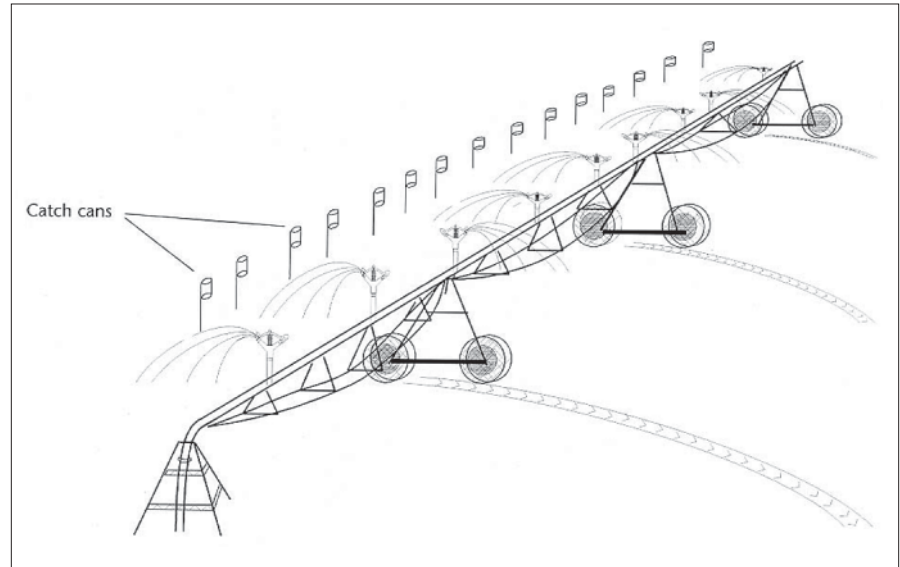

Figure 36-12. Calibration layout for center pivot irrigation systems.
4. Place gauges along a row as labeled and shown in Figure 36-12, equally spaced at the distance determined in Item 2. The row should be in the direction of system travel and at least 1/2 the sprinkler wetted diameter from the sprinkler nearest the boss tower.